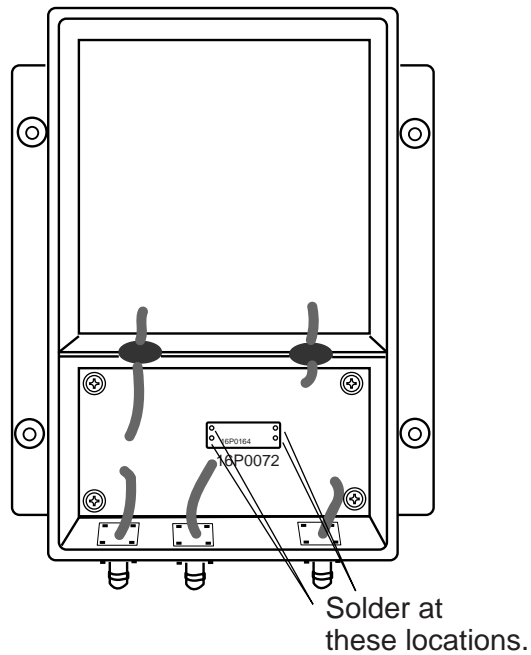

Figure 21 DOWN CON Board
6. Solder four lead wires to the RX IF FIL Board (supplied). Then, solder the board to the silk side of the DOWN CON Board. See Figure 21 for locations where to solder. The silk pattern of the RX FIL Board should be oriented in the same direction as that of the DOWN CON Board.